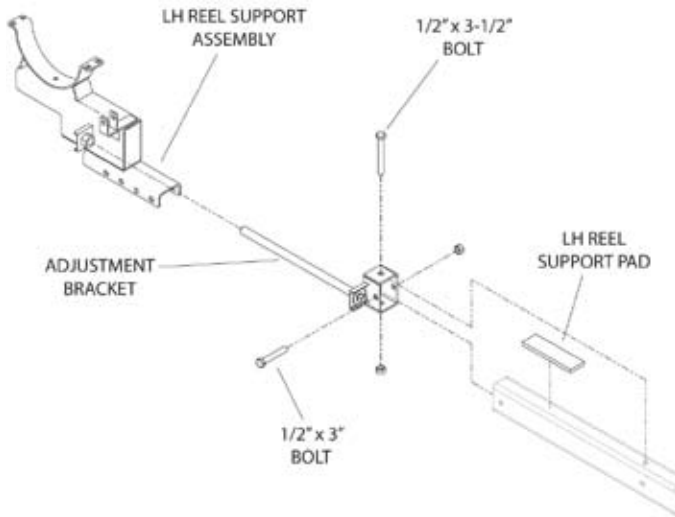

Figure 28, Reel support installation for MF 9750 (LH arm shown)
1. Mount an adjustment bracket onto the OEM LH reel arm as shown in Figure 28.